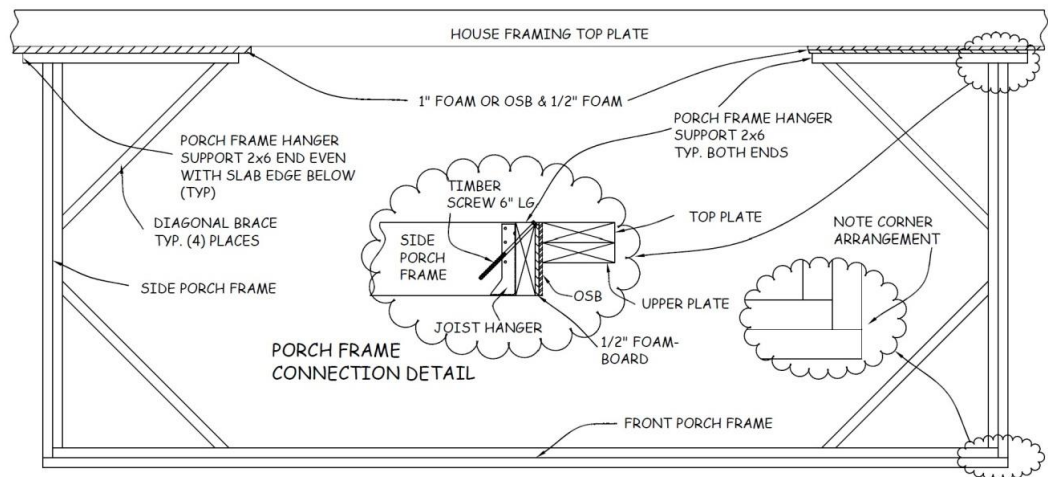

Figure 6-1. Porch Framing.
3. Refer to Figure 6-1 for the following steps. At each end of the porch, nail a horizontal 4’ long 2x6 porch frame hanger support flush with the top plate using 16d (or 3¼” collated) nails, holding one end to the line made in Step 1. Once nailed, install three or four 4” timber screws spaced ~12” apart through the 2x6 into the house framing. Tighten the timber screws such that the face of the 2x6 remains vertical.
joist hanger support into the ends of each of the side porch frame 2x6s (see detail in Figure 6-1). Then, toenail into it through the 2x6 joist hanger support with 16d nails.
8. At the house wall, measure the distance between the two outside faces of the end pieces. Cut one 2x6 to this length, and one 3" shorter. Lift the shorter of the two into place and nail it to the ends of the inside 2x6 end pieces, keeping the ends flush top and bottom, and the outside end pieces tight. Nail the longer of the two pieces to the ends of the outside end pieces, keeping the ends flush with the outside face of the end piece (see Figure 6-1). Use three 3¼" collated nails at each joint. Nail the 2x6 pairs together with three 3¼" collated nails every 24" along the length of the headers. Use a clamp or other method to keep the top and bottom edges flush. Put the nail in at an angle to be sure the points do not protrude.
9. Cut four 2x6 pieces about 40" long to be used as diagonal braces, after checking the length required. Cut a 45° bevel on each end. These will be installed diagonally in all four inside corners of the porch framing to hold them square (see Figure 6-1).